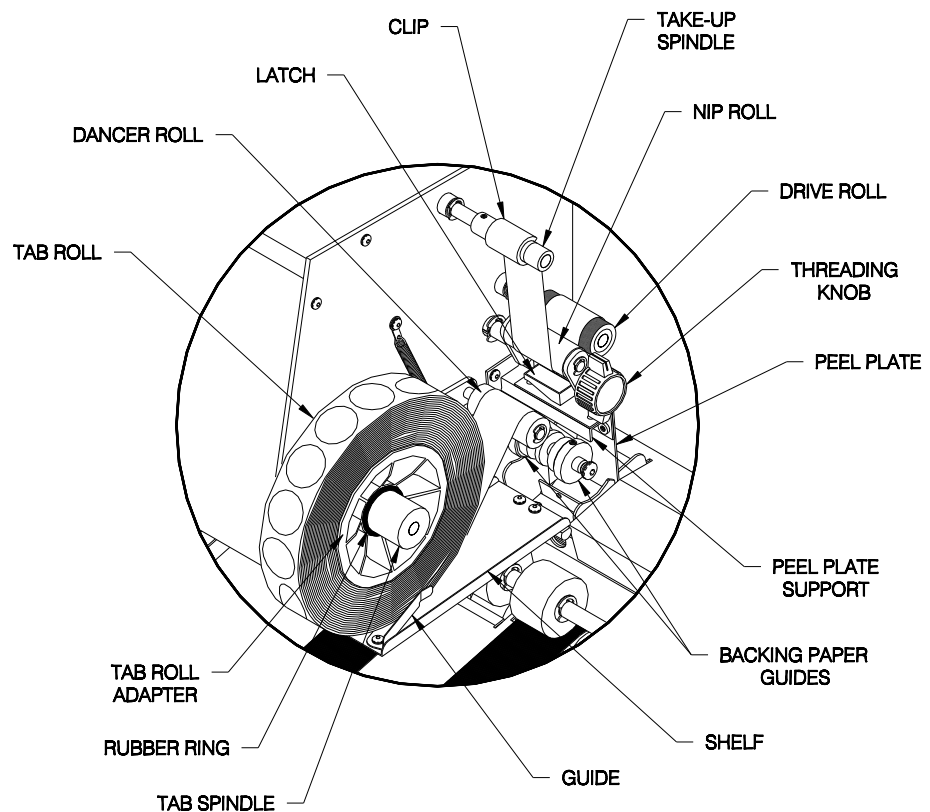

Figure 6.1 – Threading Tabs
2. Remove the outside RUBBER RING, pull down the SHELF and remove both TAB ROLL ADAPTERS from the TAB SPINDLE. (Refer to **Figure 6.1.**)
12. Remove the CLIP from the TAKE-UP SPINDLE, wrap the backing paper around the TAKE-UP SPINDLE and secure the CLIP on the backing paper. (Refer to **Figure 6.1.**)